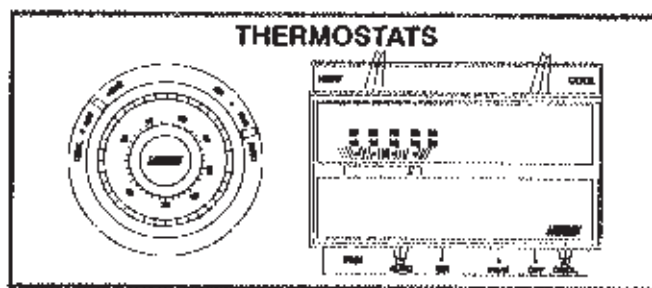

FIGURE 2
- 2- Set thermostat to lowest setting. See figure 2.